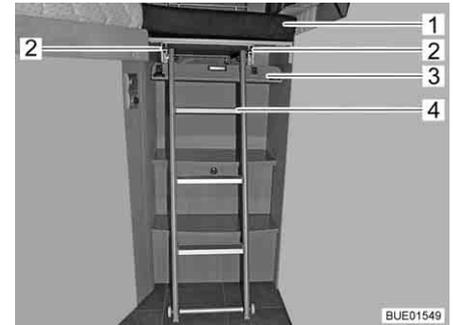

Fig. 119 Bed widening with access ladder
- Swivel panel (Fig. 119,3) downwards. The panel is held in place with magnet fasteners.
- Unlock the access ladder (Fig. 119,4) and pull it out slightly from the rails (Fig. 119,2).
- Place the additional cushion (Fig. 119,1) on the bed widening.